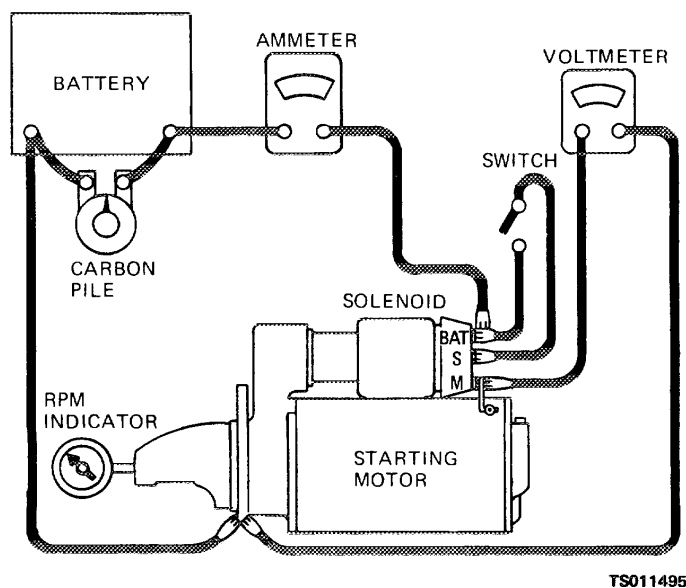

Figure 3-16. Starting motor no-load test setup.
(6) Install the commutator end frame (4) with the through bolts (3).
d. *Testing.* To perform a no-load test, connect the starting motor in series with a fully charged 24-volt battery, an ammeter of 0 to 500-ampere range and a large variable carbon pile resistor as shown in figure 3-16. Also connect a voltmeter into the circuit. You will also need a tachometer to measure armature speed. Energize the starting motor and adjust the variable resistor until you have a reading of 20 volts. Armature rotation should be within the range of 3300 to 5600 rpm with a current draw between 40 and 75 amperes. Interpret the results as follows: